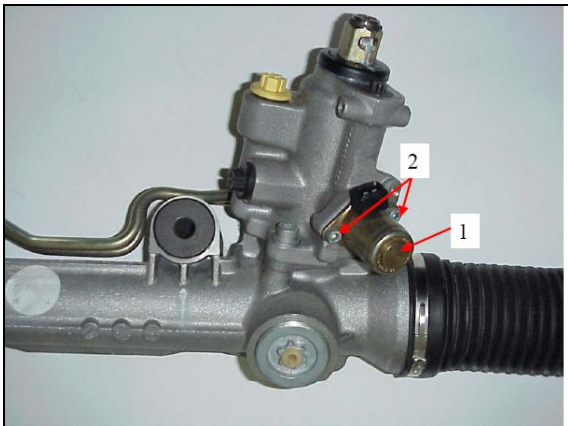

Figure 1 P-B-46.50/34
3. Unscrew bolts (Figure 1, 2) attaching speed sensitive power steering valve (Figure 1, 1).
4. Replace the speed sensitive power steering valve (Figure 1, 1). Ensure that the new sealing ring is seated properly. Attach speed sensitive power steering valve (Figure 1, 1) by screwing in bolts (Figure 1, 2), observe torque (5Nm +/-0.3 Nm).